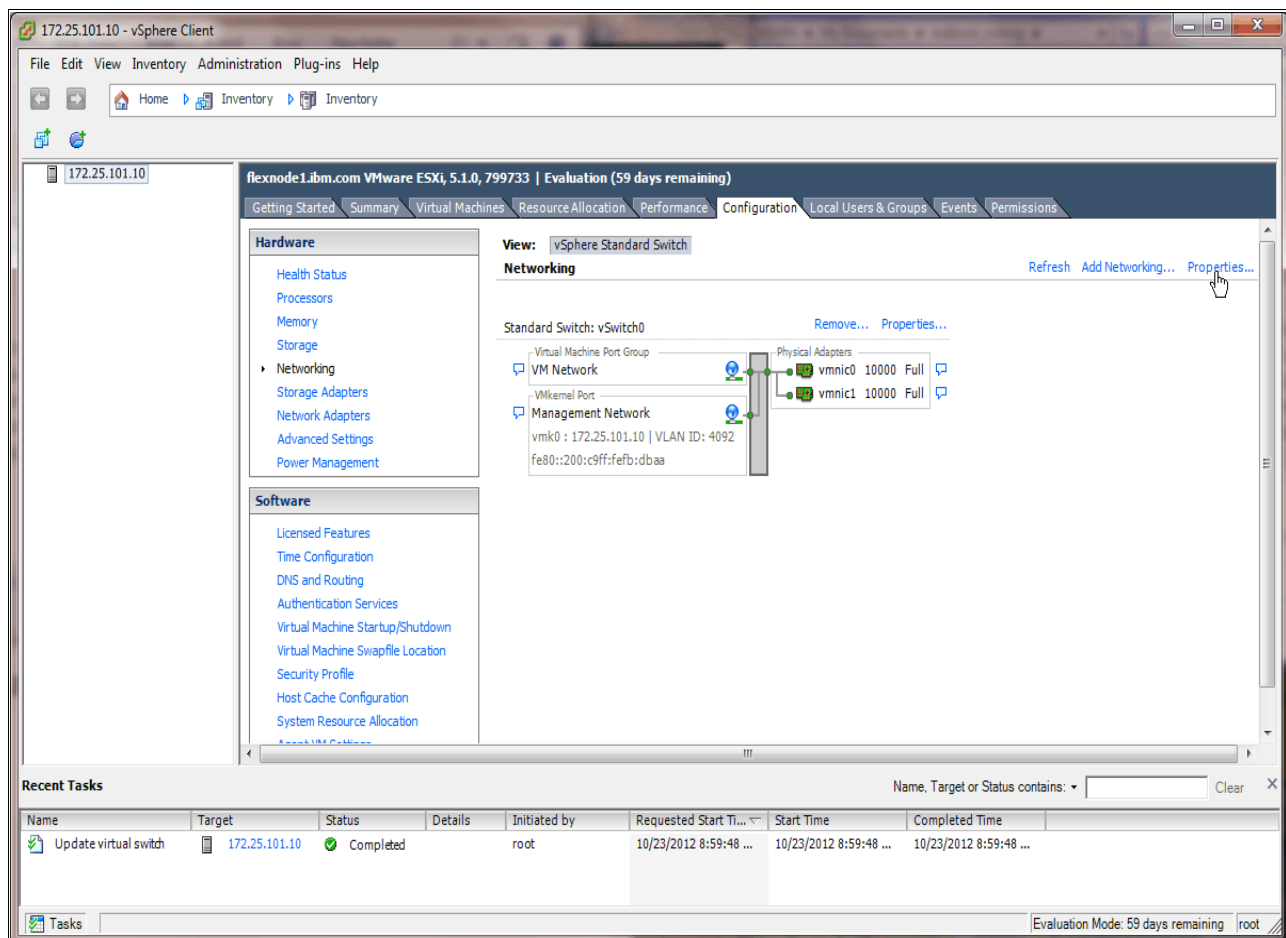

Figure 5-17 Verifying adapter configuration, ready to turn on IPv6
- Go back to the Configuration panel and notice that both physical adapters are now active and connected to vSwitch0, as shown in Figure 5-17. Click the **Properties** field underneath the vSphere Standard Switch view to enable IPv6.